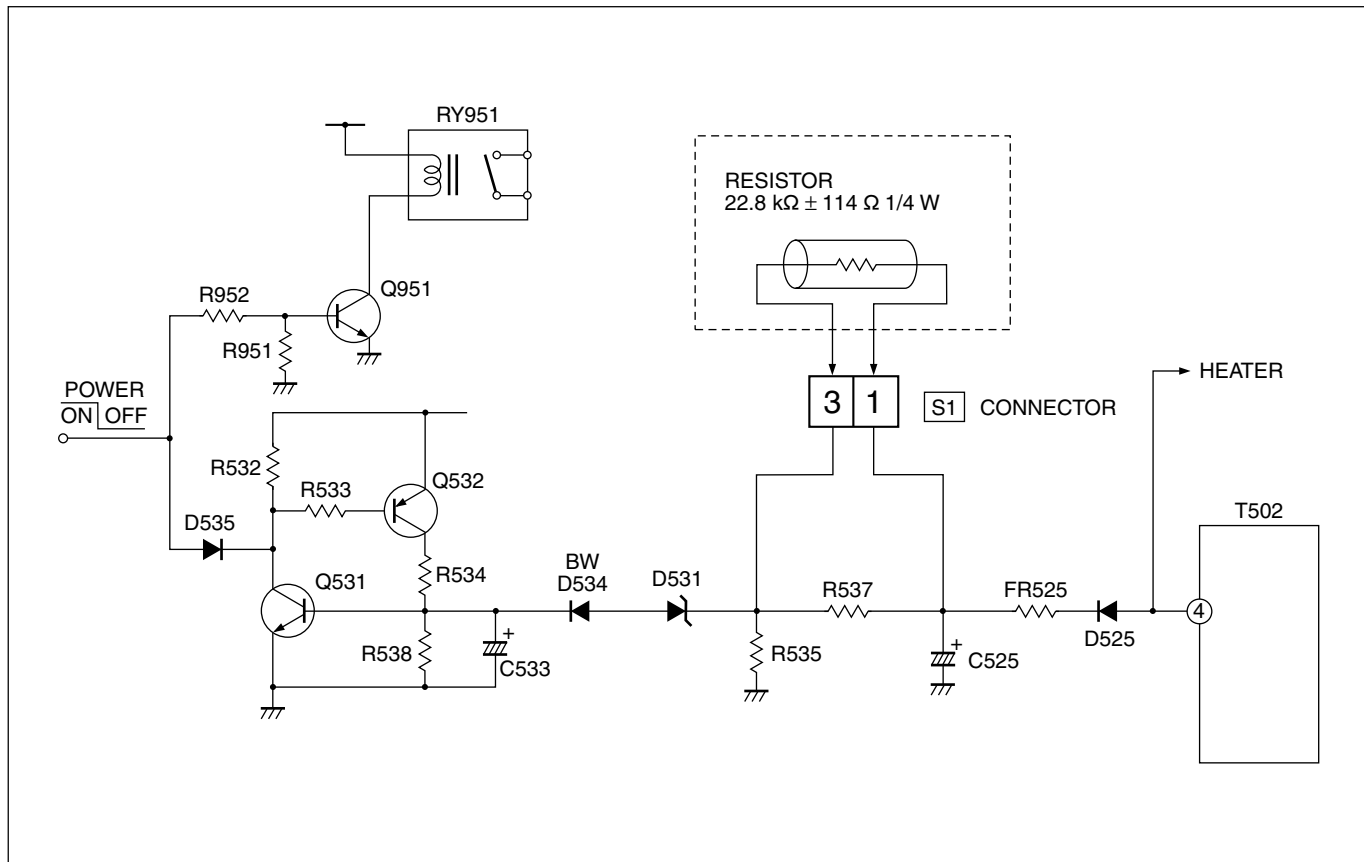

Fig. 1
- (1) Turn the POWER SW ON.
- (2) As shown in Fig. 1, set the resistor (between [S1] connector [1] & [3] ).
- (3) Make sure that the screen picture disappears.
- (4) Temporarily unplug the power cord.
- (5) Remove the resistor (between [S1] connector [1] & [3] ).
- (6) Again plug the power cord, make sure that the normal picture is displayed on the screen.